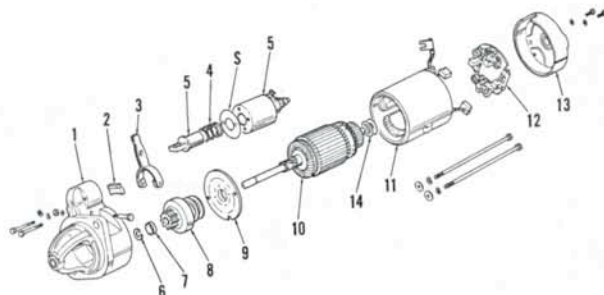

Fig. 162—Exploded view of starting motor typical of type used on 1500, 1700, 1900, 1910 and 2110 models.
97. Refer to Fig. 162 for an exploded view of starting motor and solenoid. Pinion clearance (C—Fig. 159) should be 0.2-1.5 mm (0.008-0.060 inch) with solenoid engaged. To check clearance, disconnect and insulate field wire from solenoid terminal. Engage solenoid by attaching jumper cables (1, 2 and 3) to locations indicated. Push pinion back to remove slack and use a feeler gage to measure clearance between pinion and stop collar. Clearance can be adjusted by adding or removing shims (S—Fig. 162) between solenoid and drive housing.